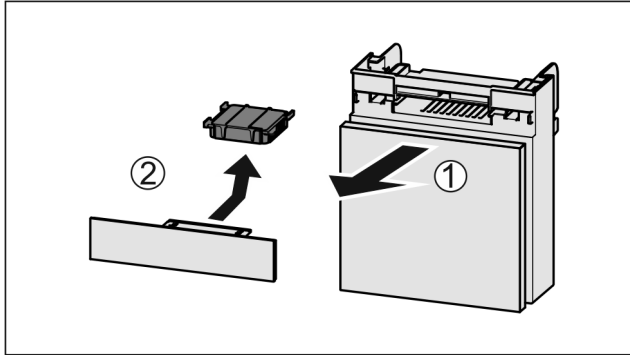

Fig. 48
- ▶ Pull out the compartment Fig. 48 (1).
- ▶ Remove the carbon filter Fig. 48 (2).